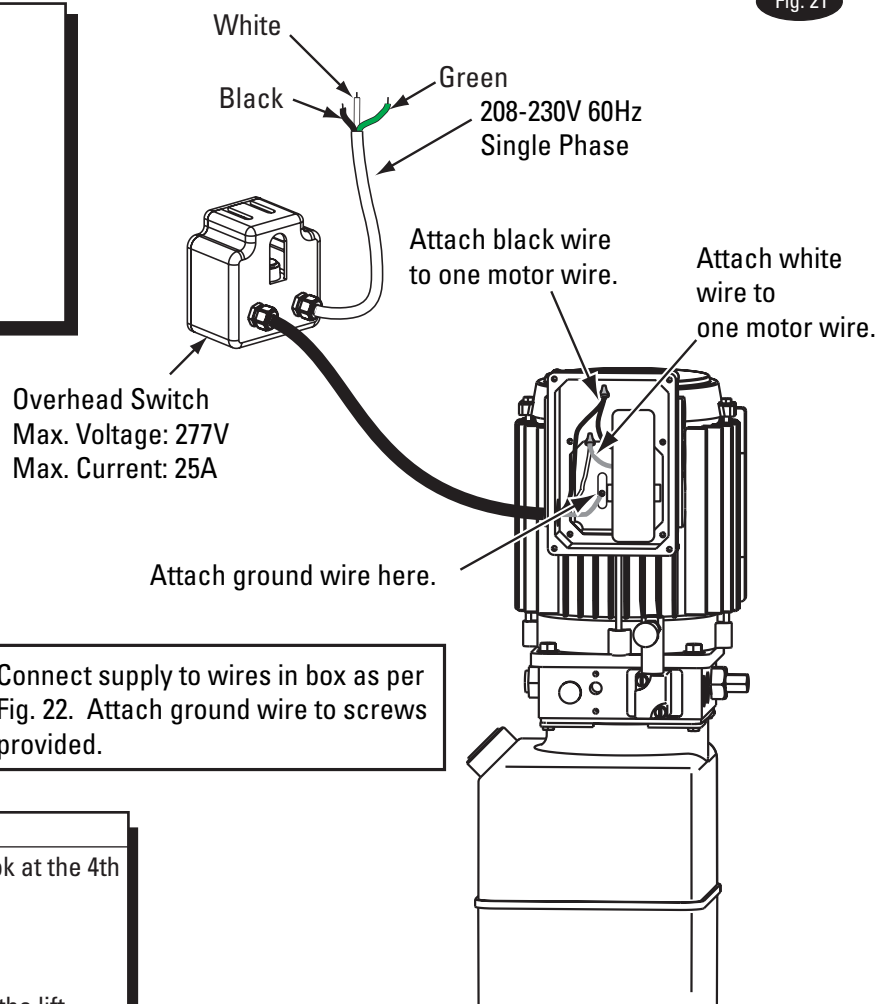
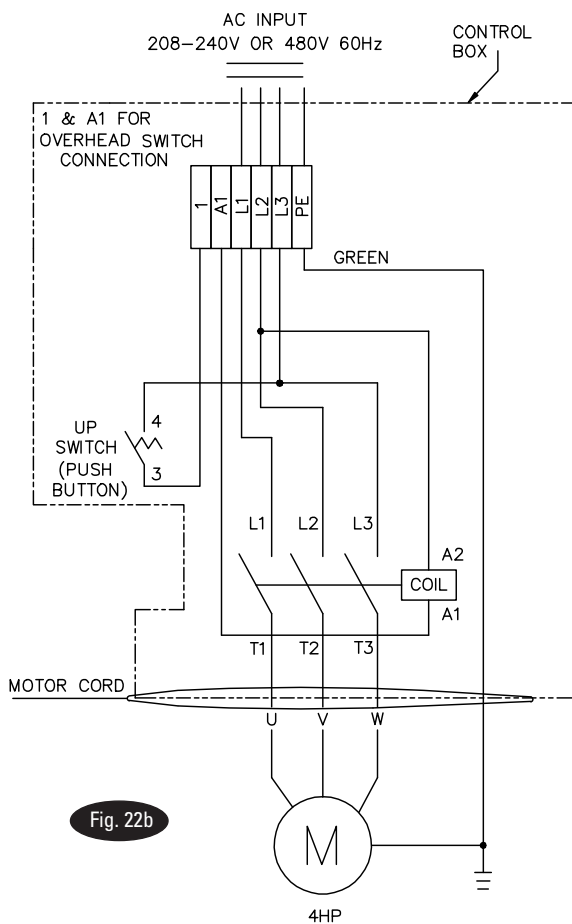

Fig. 21
Fig. 22b
13. Electrical: Have a certified electrician run appropriate power supply to motor, Fig. 21 & 22. Size wire for 20 amp circuit. See Motor Operating Data Table.
IMPORTANT: Use separate circuit for each power unit. Protect each circuit with time delay fuse or circuit breaker. For single phase 208-230V, use 20 amp fuse. Three phase 208-240V, use 20 amp fuse. For three phase 400V (*E Model) and above, use 10 amp fuse. For three phase 380V (*S Model) use 16 amp fuse. For wiring see Fig. 21, Fig. 22, and Fig. 22b. All wiring must comply with NEC and all local electrical codes.
16. Overhead switch: Check overhead switch assembly to assure that switch bar is depressing switch plunger sufficiently to actuate the switch. The overhead switch is wired normally open, see Fig. 21, Fig. 22, and Fig. 22b. Lift will not operate until weight of switch bar is depressing switch plunger. Verify that Power Unit stops working when switch bar is raised, and re-starts when the bar is released.